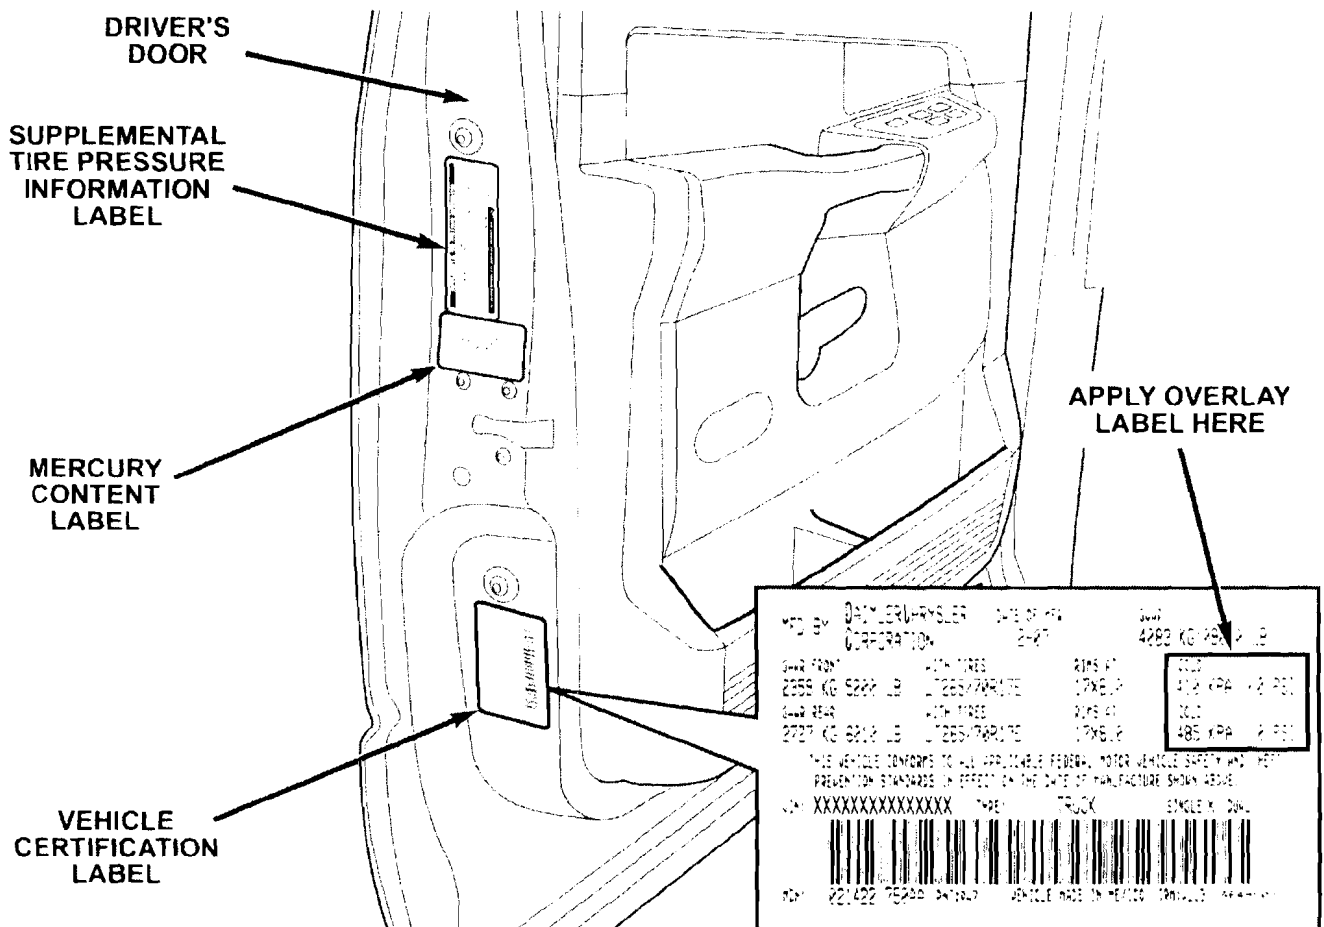

Figure 1
1. Open the driver’s door and locate the Certification label on the driver’s door as shown in Figure 1.
3. Remove the Certification label overlay from its paper backing and carefully install it on the Certification label, covering the incorrect tire inflation pressure information (Figure 1). Firmly press and smooth the label to the surface of the Certification label to ensure good adhesion.
4. Locate the Supplemental Tire Pressure Information label on the driver’s door (Figure 1).
6. Remove the Supplemental Tire Pressure Information label from its paper backing and carefully install it over the original label (Figure 1).